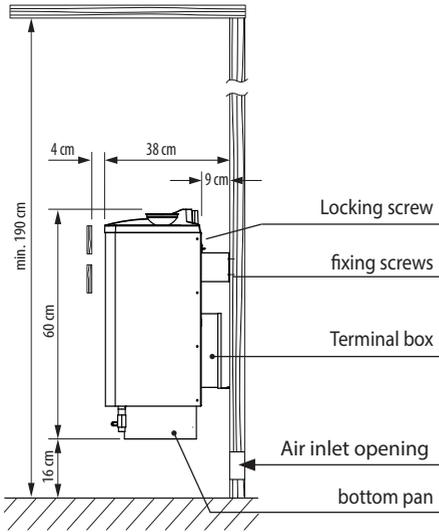

Fig. 5
4. Hang the sauna oven onto the wall bracket with the receptacle slits on the back wall, and lay it against the distance holder. (Fig. 5).